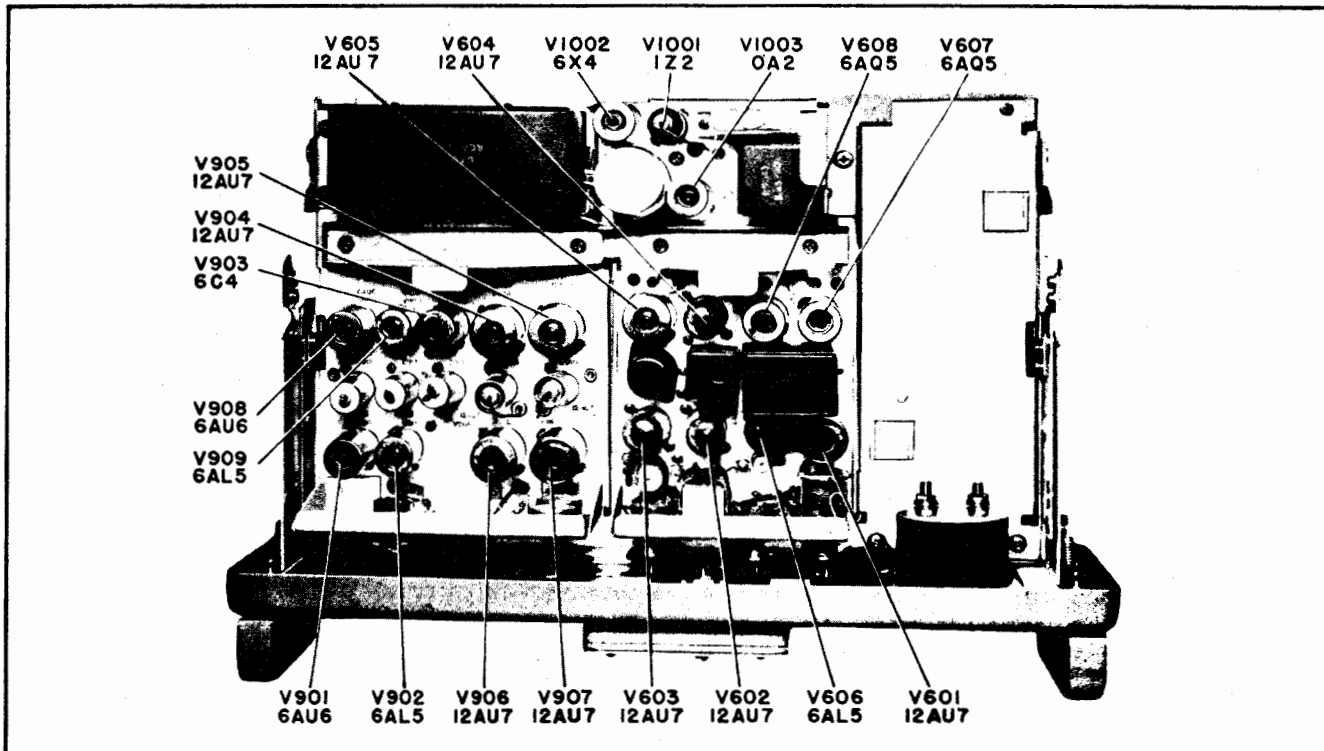

Figure 5-4. Comparator CM-14/URR, Tube Locations
(1) Slide the Comparator out of the cabinet and connect to Cable Filter by means of the jumper cable supplied.
(2) Connect a jumper from a filament lead to grid of V903, pin 6 (location of this tube is shown in Figures 5-4 and 7-34).
(3) Set CHANNEL A-COMBINED CHANNEL B switch to COMBINED.
(4) Connect a test oscilloscope from V906 cathode, pin 3, to ground.
(5) Channel switching is now occurring at a 60-cycle rate.